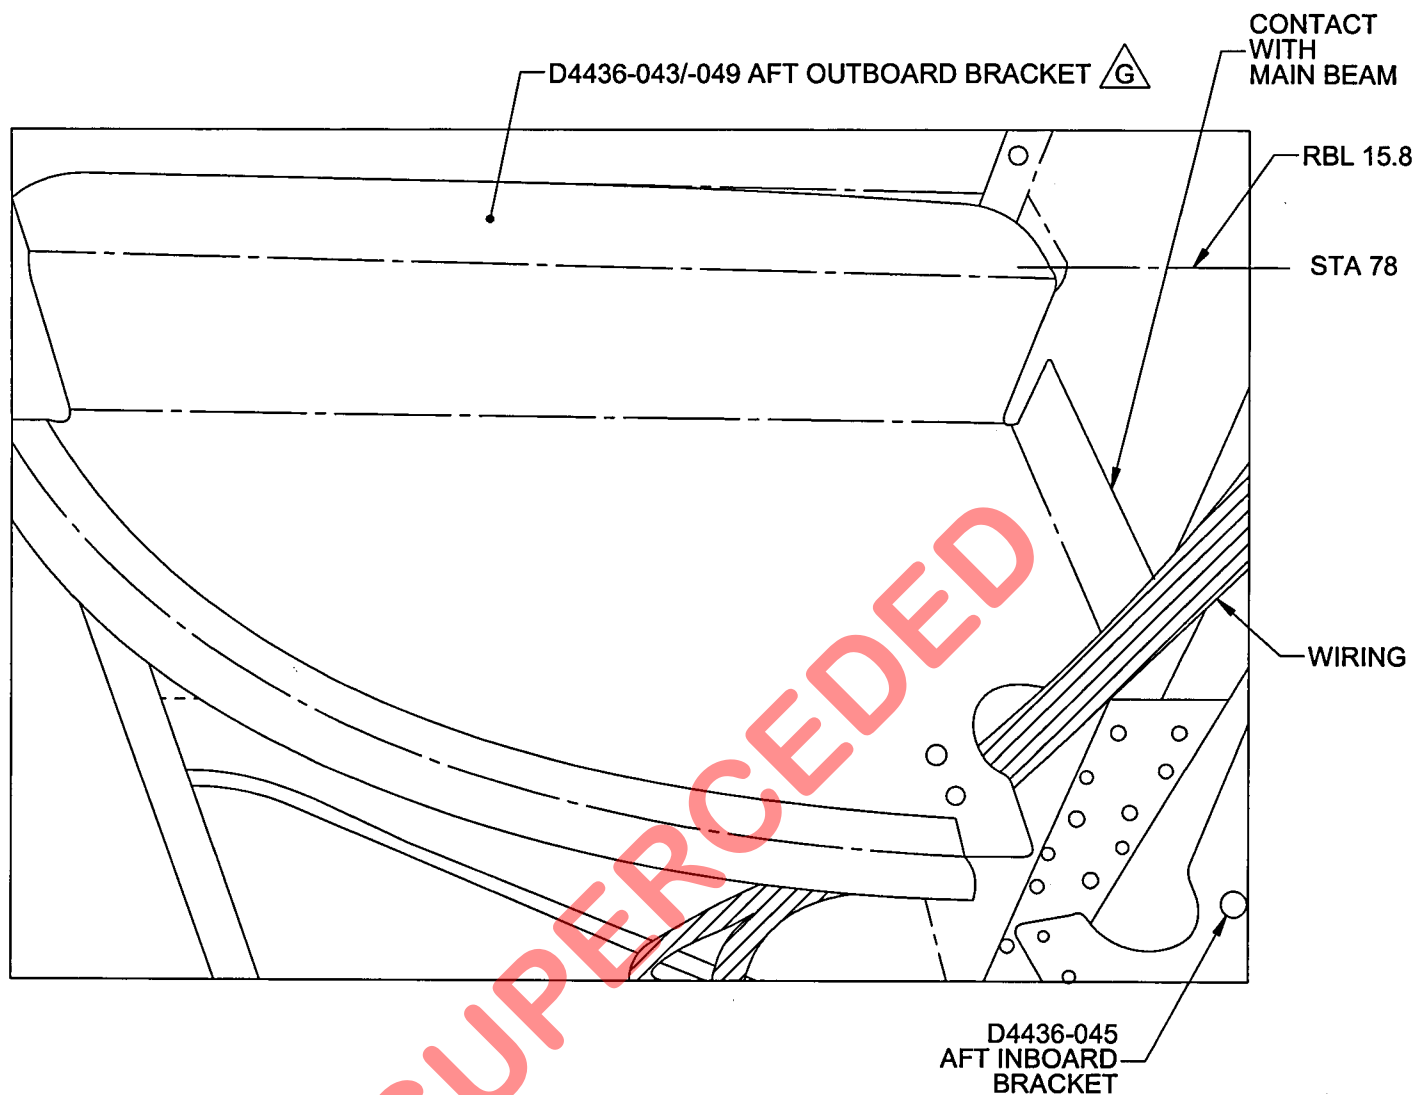

Figure 3. D4436-043/-049 Aft Outboard Bracket Installation
- Position the D4436-043/-049 Aft Outboard Bracket so the flange contacts the main beam as shown in Figure 3.